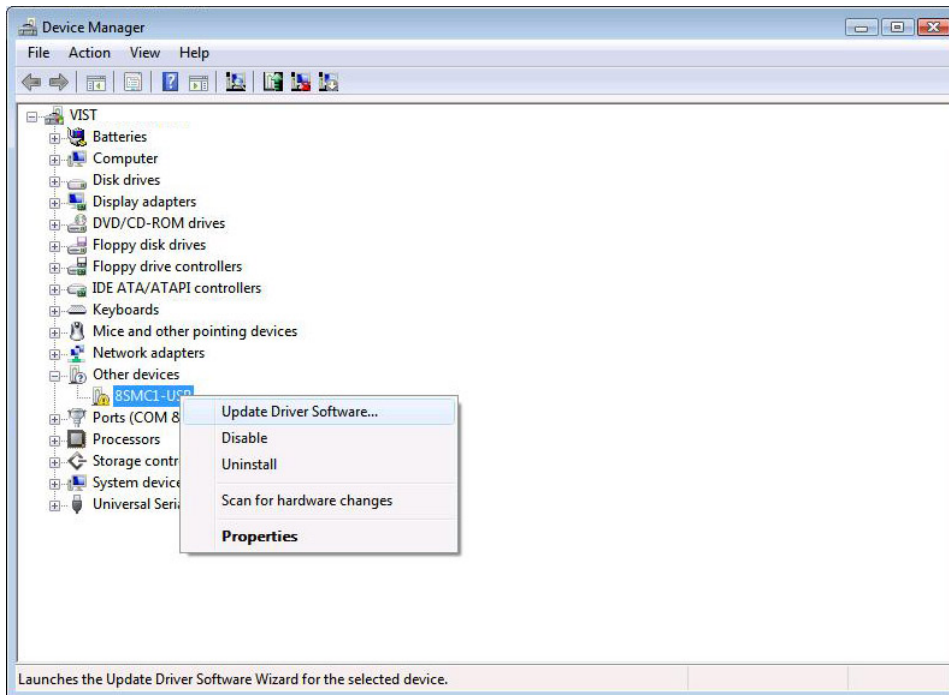

Figure 73. Update Driver Software.
- Open Device Manager window, choose yellow marked 8SMC1-USB device in "Other devices" group or yellow marked "Unknown device" (it depends on Windows Vista settings), make a right click and choose "Update Driver Software..." (see Figure 73).